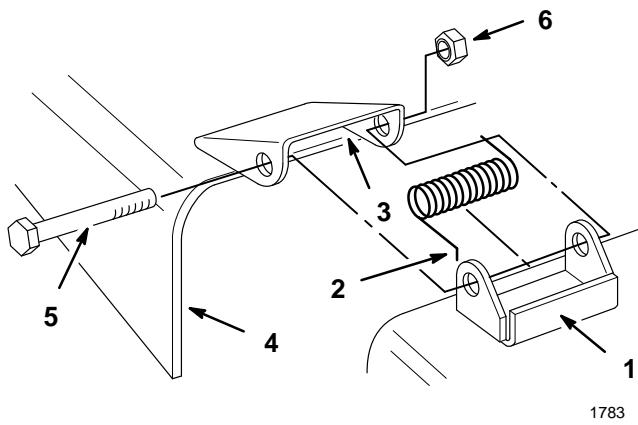

Figure 4
7. Place springs into brackets on mower with hooked ends over raised back (Fig. 4).
8. Align grass deflector with holes in brackets and spring straight ends in space under hinge and above deflector (Fig. 4).
9. Secure deflector to bracket with 3/8-3-1/2 (89 mm) bolts through grass deflector, springs and brackets. Secure with 3/8" lock nuts (Fig. 4).